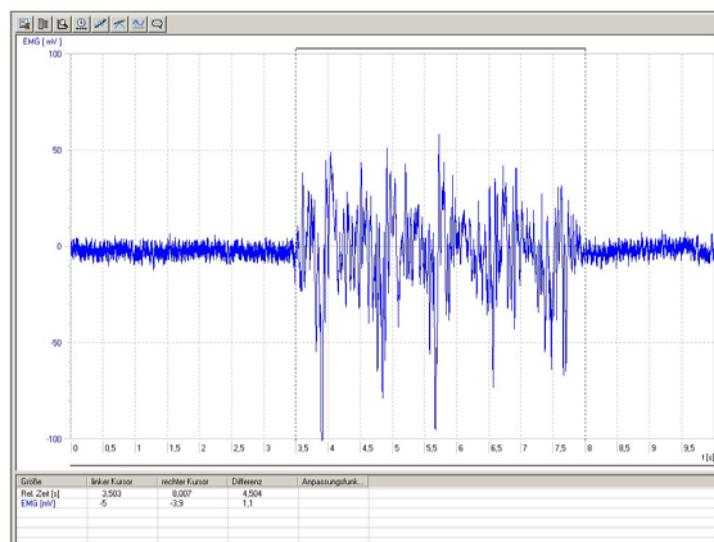

Fig. 4 EMG of muscular contractions of the left forearm; effect of switching between relaxed and active phases
- Start the template and record the electromyogram curve (Fig. 4).